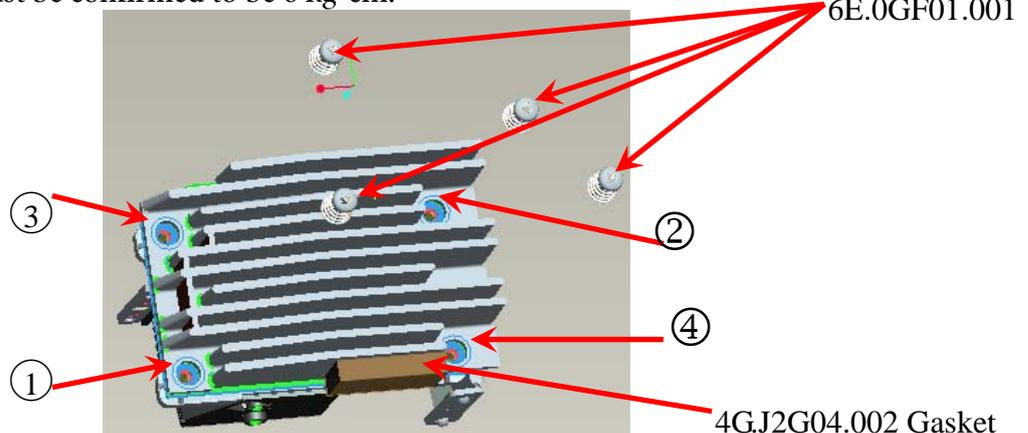

Fig. 10-3
10.3 Assemble Thermal Pad & Gasket Hest-sink then place contact DMD (Fig. 10-3).